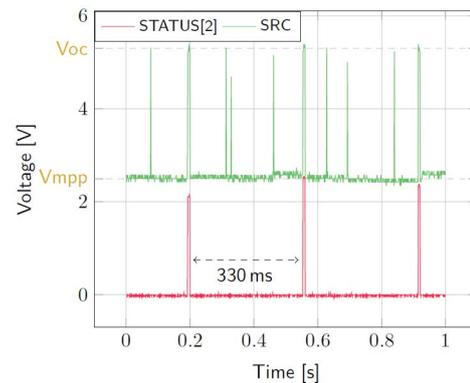

Figure 4: SRC and STATUS[2] while energy is extracted from SRC (BATT under  $V_{OVCH}$ )
- SRC: Regulated at  $V_{MPP}$ , which is a voltage equal to the open-circuit voltage ( $V_{OC}$ ) times the MPP ratio defined in Table 4.  $V_{SRC}$  equals  $V_{OC}$  during MPP evaluation (see Figure 4. Note that  $V_{src}$  must be higher than 380 mV to coldstart.
- STATUS[2]: Asserted each time the AEM30940 performs a MPP evaluation (See Figure 4).